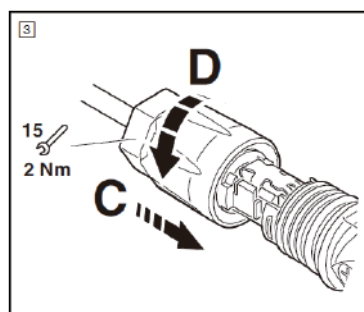

Figure 5-13
6. Push the insert into the sleeve (Figure 5-13, C)